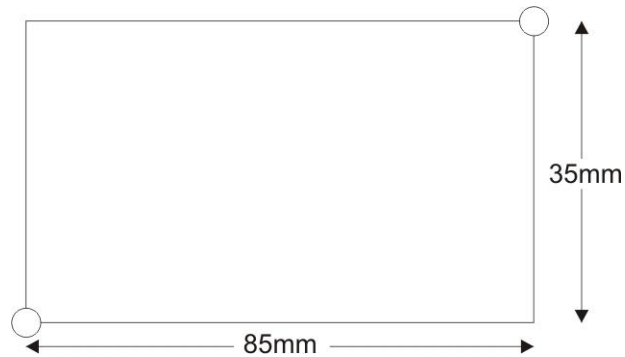

Fig 3.1 – Mounting holes dimensions details of Temperature Transmitter
- ii) Now fix the temperature transmitter on the solar panel table (piling) with 2nos 3/16'' x 2'' round head screw provided with the shipment. As in fig 3.1